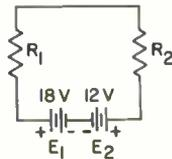

Fig. 58
9. In which direction are the electrons flowing around the circuit of Fig. 58? (Hint: Note that E_2 bucks E_1 , also, refer to Topic 11.)